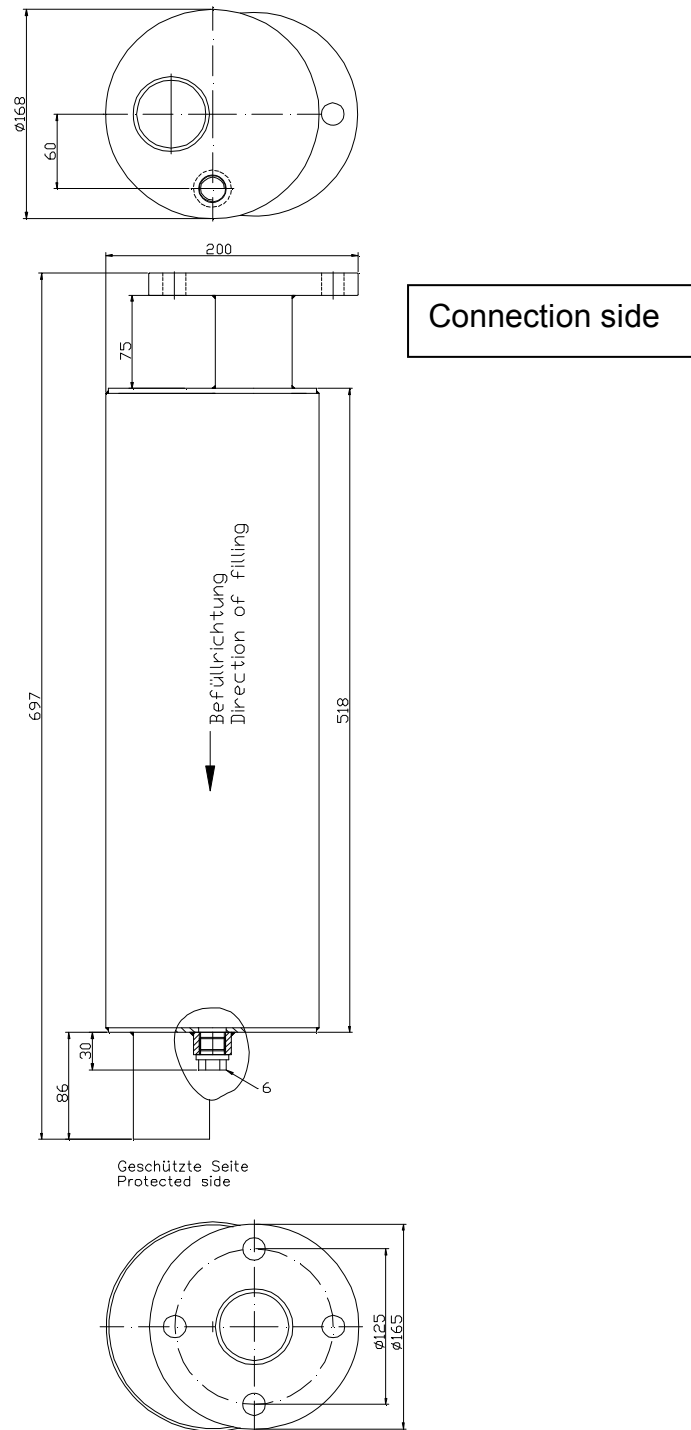

Fig. 1
(See also figure 1)
(See fig. 1)
- Spare part no. (Please refer to **fig. 1** for items)